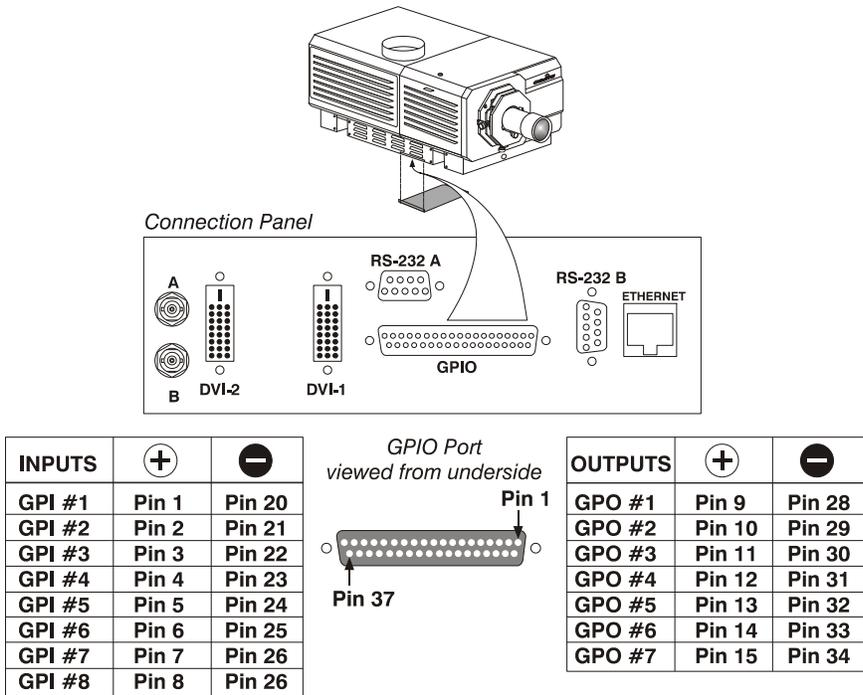
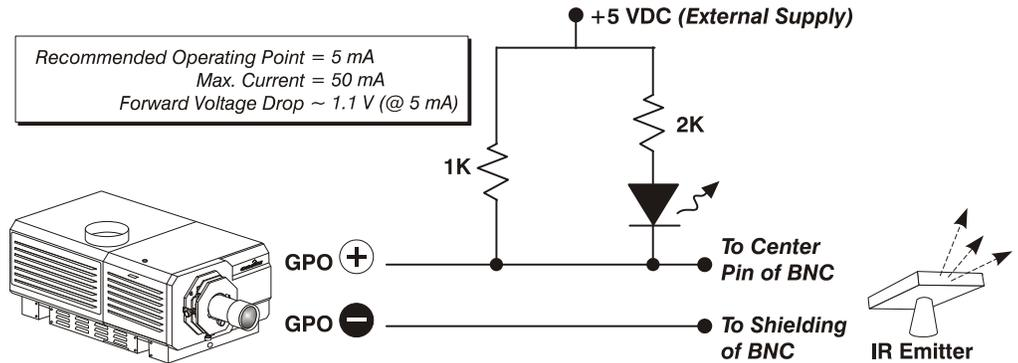

Figure C.1. GPIO Connector Pinouts
Figure C.2. Circuit for Power Supply
The GPIO Port ► The 37-pin GPIO connector located on the underside of the projection head provides a flexible method of interfacing a wide range of external I/O devices to the projector, often so that an event on one device automatically triggers an event on the other. The pins on this connector that are configurable using the TPC's *Custom 3D Control* menu are identified in Figure C.1.
NOTE: *Pins not shown in Figure C.1 are reserved for other uses, and cannot be specified at the TPC.*
If you are wiring your own GPIO cable for use with a server or 3D device such as an IR emitter or a polarizer, follow the circuit diagram in Figure C.2.
1. Assemble a cable according to guidelines shown in Figure C.1 and Figure C.2.
3. In the TPC's *Custom 3D Control* menu, set *Output GPO* according to the pins wired in the GPIO cable (see Figure C.1). For instance, if you have wired pins #10 (+) and #29 (-) to your 3D device, set *Output GPO* to GPO #2.